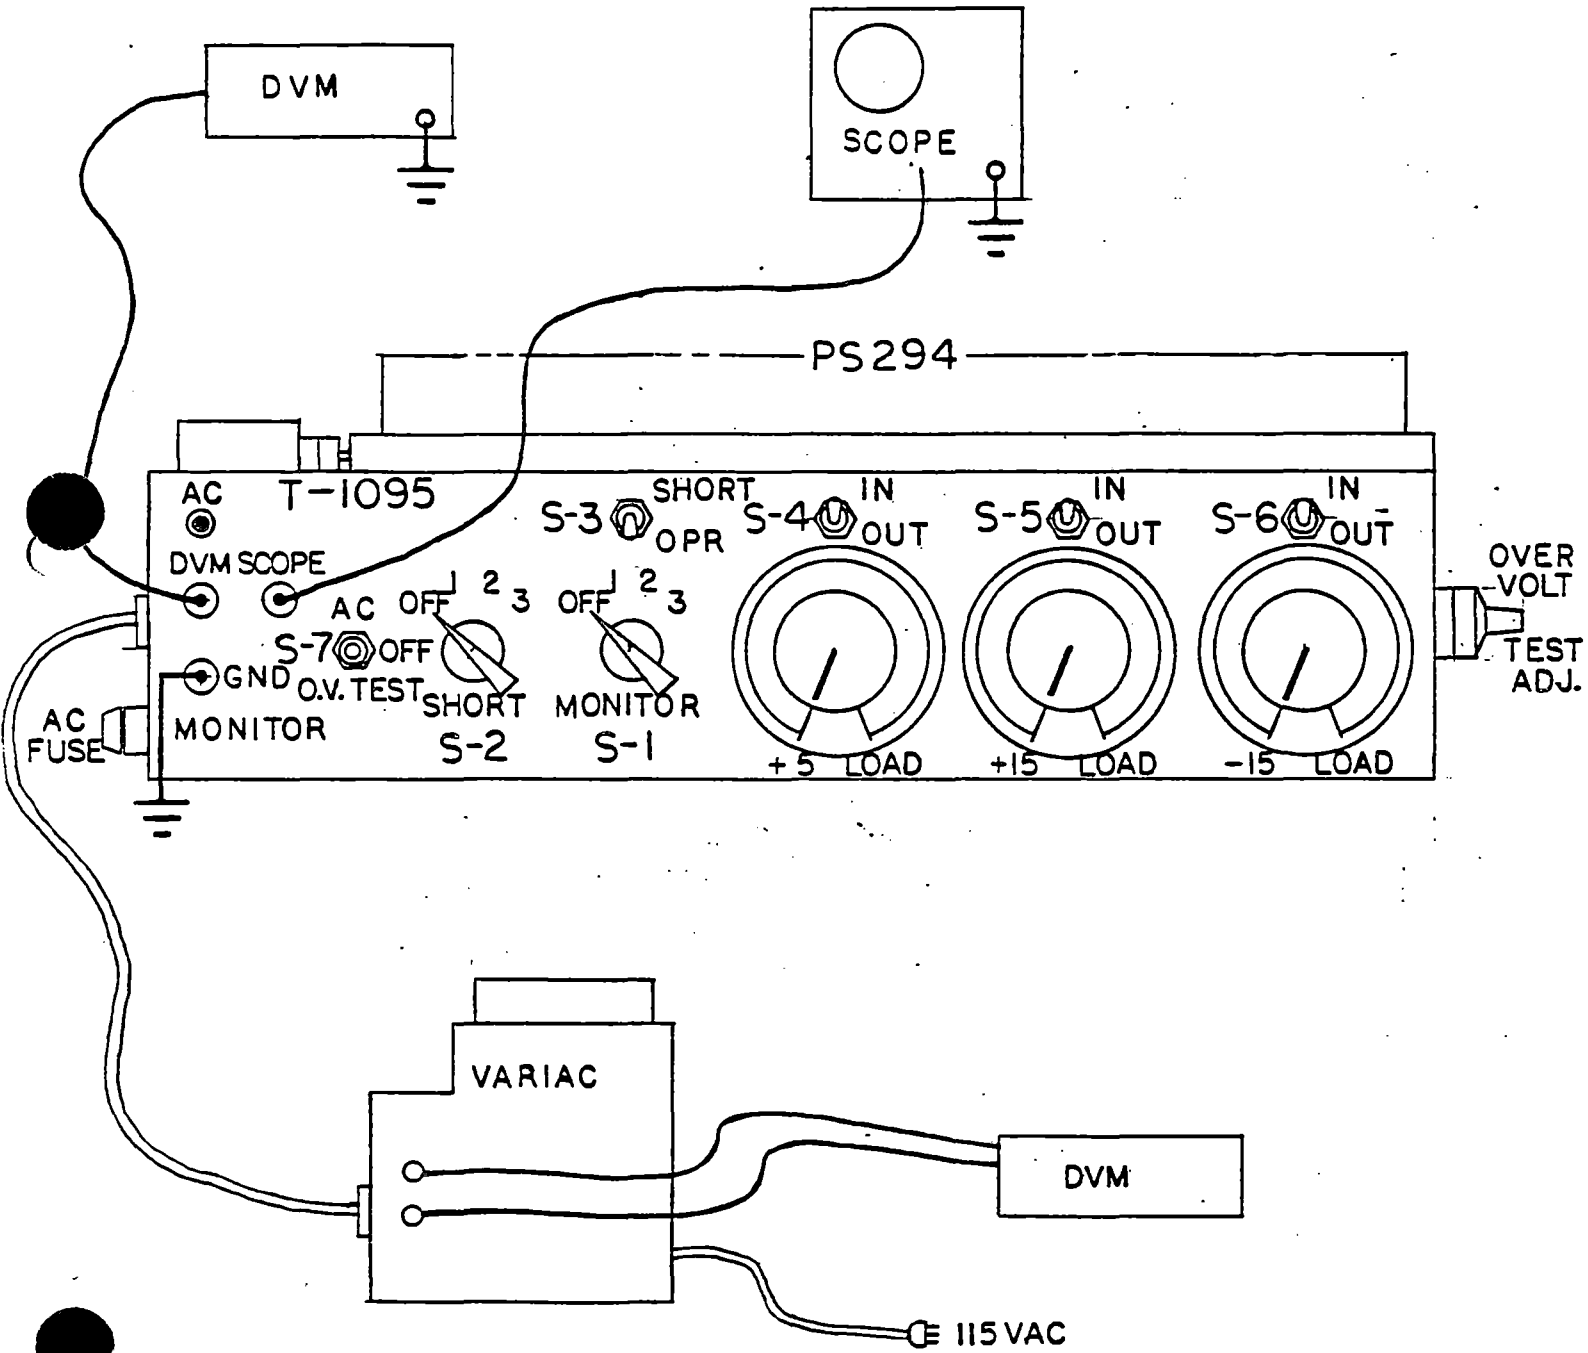

FIGURE 1
4.1 Connect PS294-Q2, digital voltmeters (DVM) and oscilloscope to the tester as shown in Figure 1. Set the output of the variac to the lowest dial setting and connect to the tester. Make sure S1 and S2 are in "OFF" position, S3 in "OPERATE" position and S4, S5 and S6 are in "OUT" position.